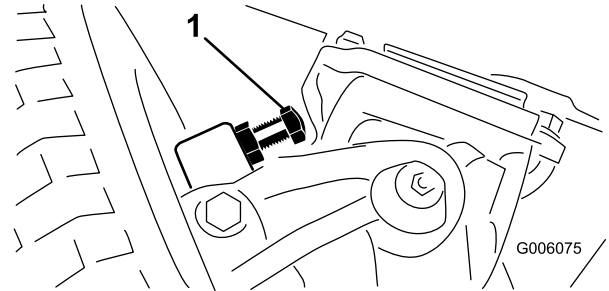

Figure 72
1. Thread the bolts in or out until you attain a clearance of 0.23 cm (0.090 inch) (Figure 72).